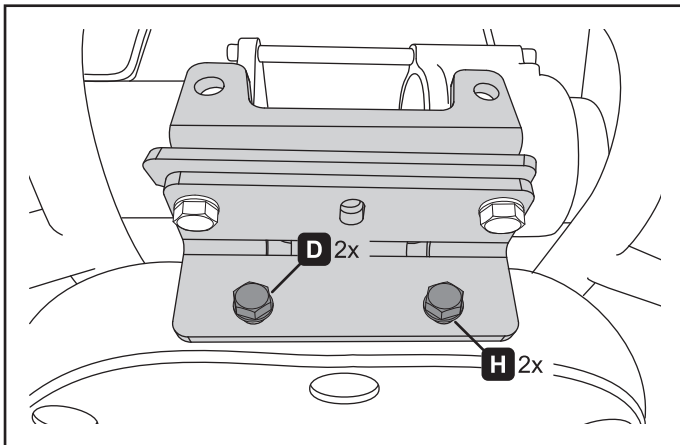

Figure 7.
4. Install the winch assembly from step 3 with bolts (D) washers (H) and nuts (J). See figures 7, 8 and 9.